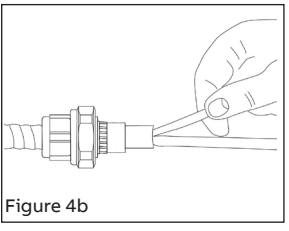

Figure 4b
- 5b Fill throat area of sealing chamber with compound. Use a suitable wooden dowel to pack compound tightly around conductors. (Figure 4b).